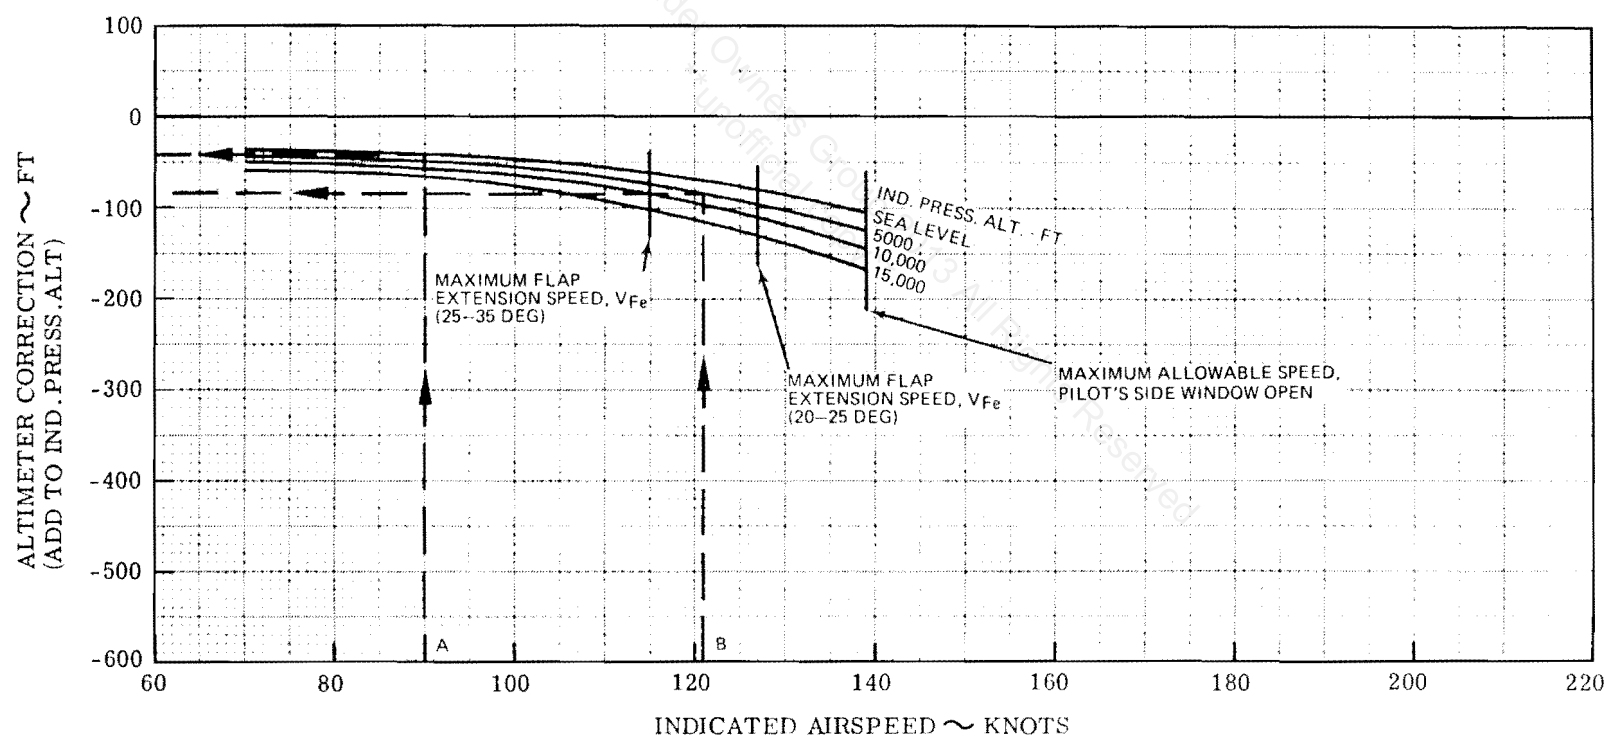

Figure 5-6.
The variation of Altimeter Correction with Indicated Airspeed and Indicated Pressure Altitude is shown in Figure 5-6 for Takeoff, Cruise, and Landing configurations. They apply only when the Alternate Static Pressure Source has been selected; only the Pilot's side window may be open.
3. A conveniently located plasticized card is provided in the cockpit which tabulates the Altimeter Correction presented in Figure 5-6.